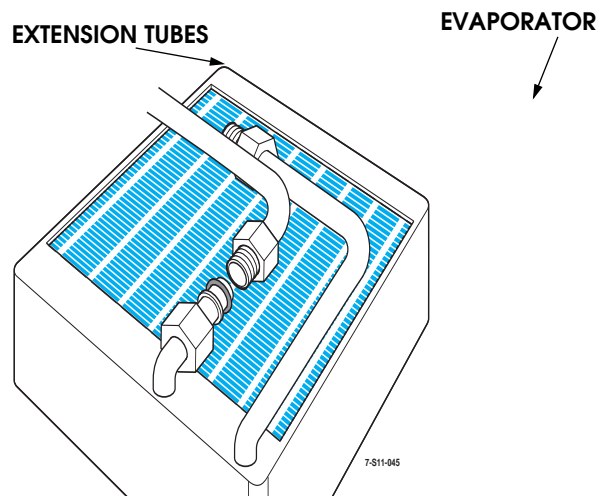

Figure 11-107: Evaporator Extension Tubes Removal
23. Disconnect evaporator extension tubes at the o-ring fittings (Figure 11-107). Discard the o-rings.